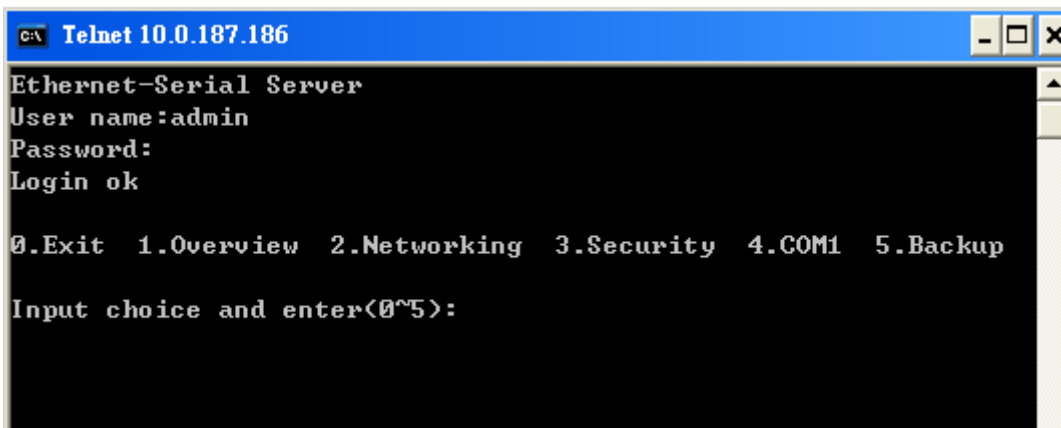

Figure 3.5 Main menu
1. After verifying the password, the following terminal screen appears (Figure 3.5).